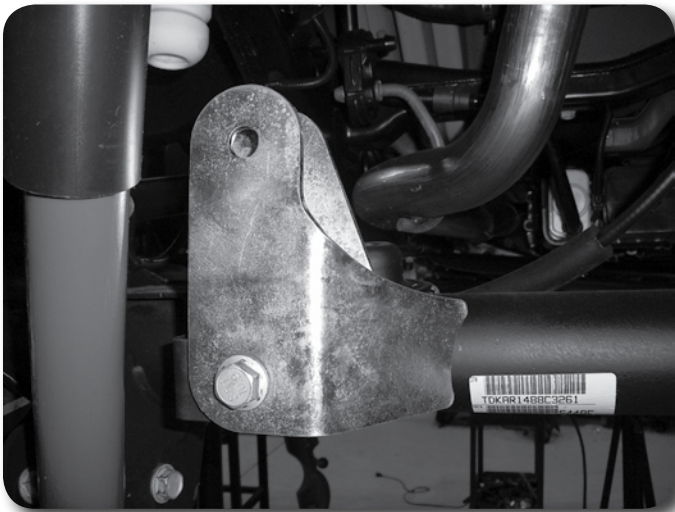

Figure 21A
22. Position the relocation bracket on the factory bracket so it is flush to the top and back faces. Ensure that the large slot in the new bracket is in line with the original track bar mounting hole. Using the upper hole in the bracket as a template, mark the hole location to be drilled. **Figure 21A/B**